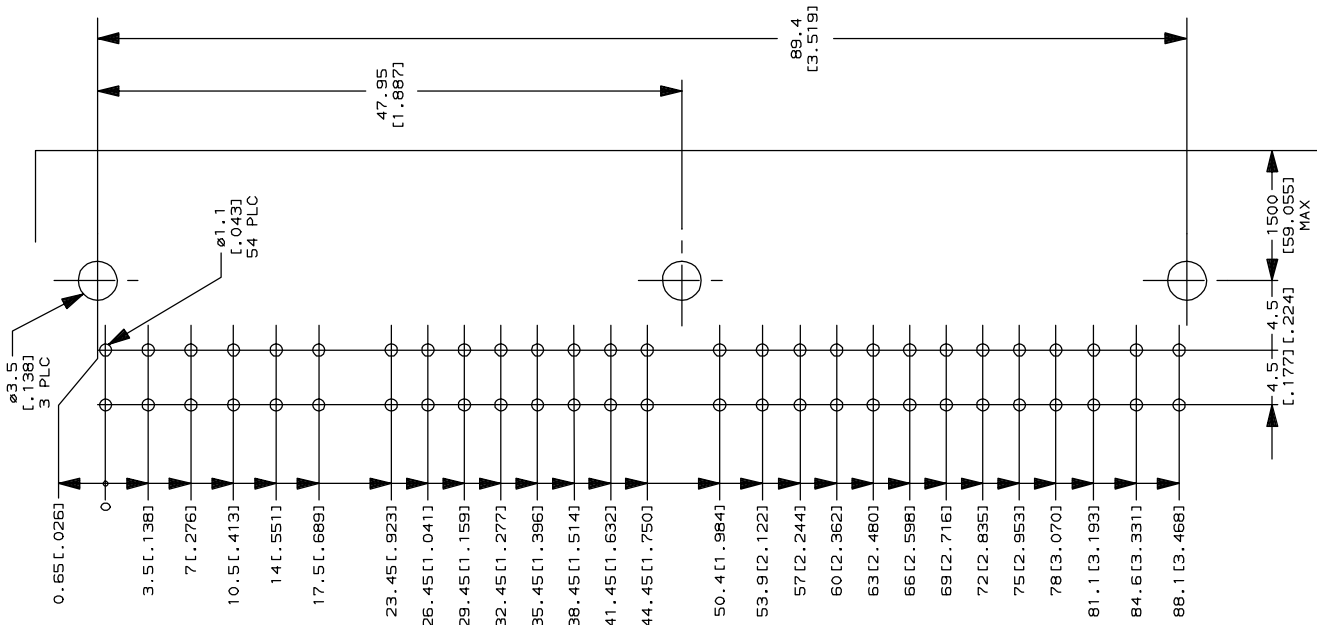

Figure 7
The mounting and contact holes in the pc board must be precisely located to ensure proper placement and optimum performance of the connector. See Figure 7. The connectors may be placed on the pc board manually or by machine.
**NOTE** *Figure 7 represents a **typical** pc board layout for this product. For dimensions and hole pattern layout for specific product, obtain the appropriate customer drawing through your TE Representative or refer to the telephone numbers at the bottom of page 1.*